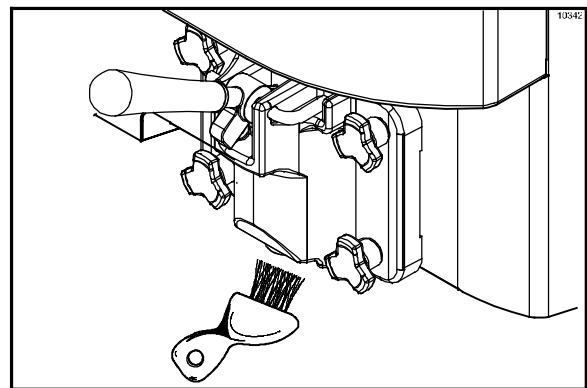

Figure 50
**Note:** To assure sanitary conditions are maintained, brush each item for a total of 60 seconds, repeatedly dipping the brush in cleaning solution. (See Figure 50.)